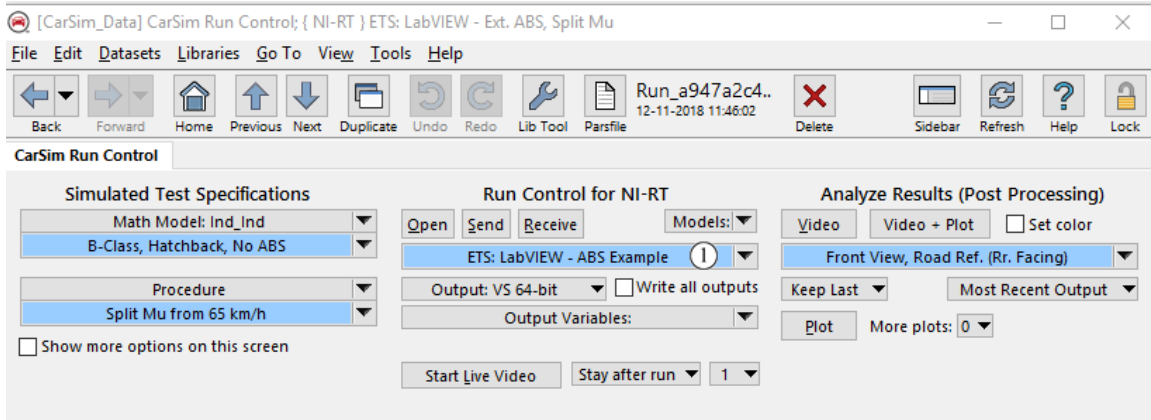
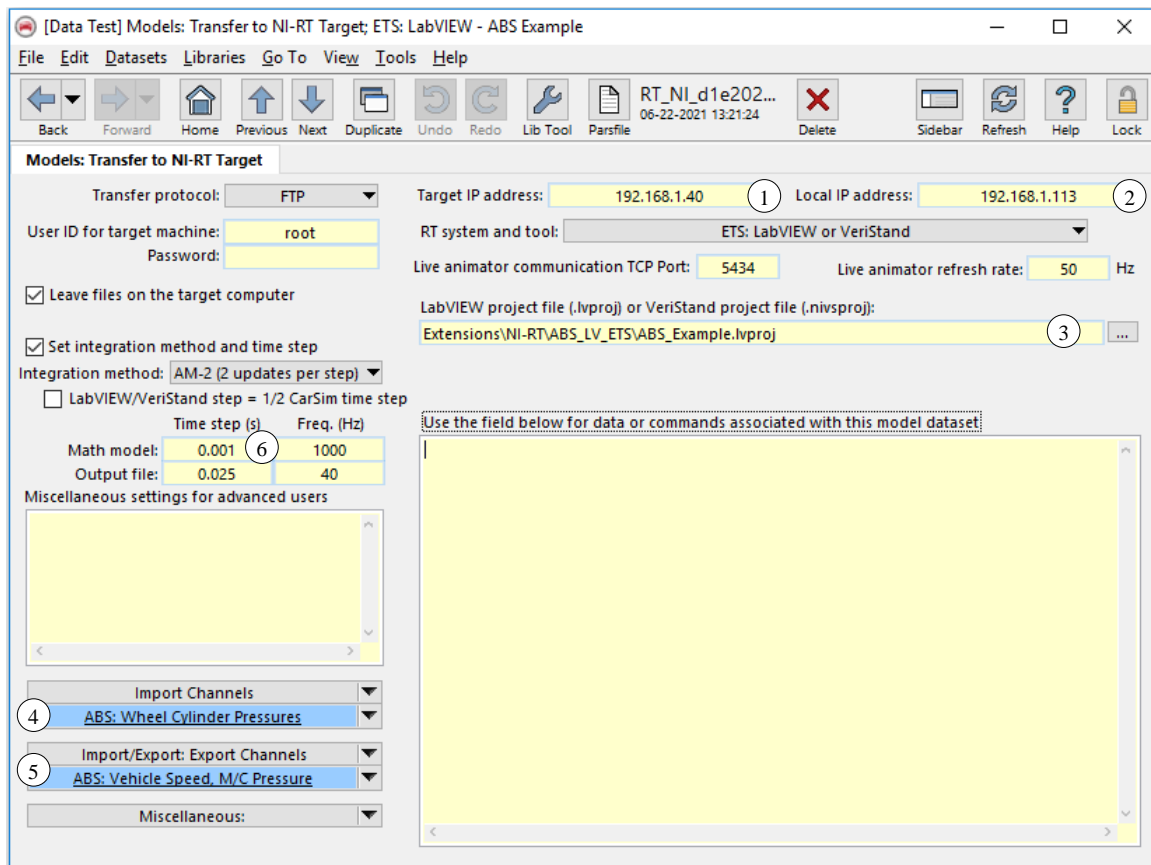

Figure 7. Example run with ABS model and LabVIEW RT.
Figure 8. Dataset for LabVIEW RT ABS example.
1. From the **Run Control** screen, use the **Dataset** menu to go to the run **RT: NI-RT->ETS: LabVIEW - Ext. ABS, Split Mu** example (Figure 7).
2. Click the blue link for the NI-RT model ① (Figure 7) to view the linked dataset (Figure 8). This screen specifies the IP addresses of the target ① and host ② machines and the pathname for the LabVIEW project file ③ and links to datasets that specify variables to be imported from LabVIEW ④ and exported to LabVIEW ⑤. Check the **Leave files on the target computer** and **Set integration method and time step** checkboxes. Select the integration method AM-2 and math model time step to 0.001 ⑥.
4. After the simulation finishes, the simulation results are automatically sent back to the host Windows PC. If not, click the **Receive** button on the **Run Control** screen (Figure 7) to transfer the output files (ERD, BIN, ECHO, and LOG files) back to your VS database for post processing (plotting, animation, etc.).